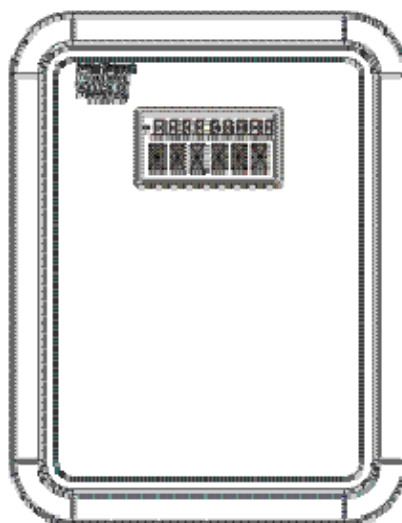

Figure 2-25. Display with No Keypad
- Display only (no keypad) – (see *Figure 2-25*)